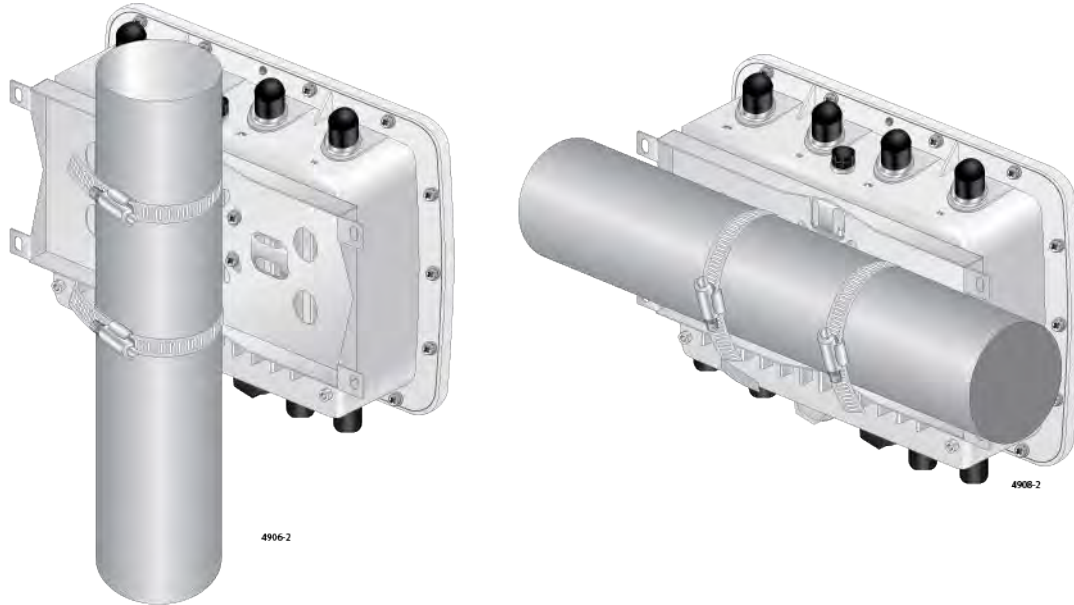

Figure 31. Pole Orientations for the Access Point
You can install the access point on a pole that stands vertically or runs horizontally. See Figure 31.
Figure 31 show the pole orientations using the pole straps and mounting base as examples. You can also install the access point on a vertical or horizontal pole using the U-bolts and pole-mount bracket.
- The access point can be installed on a pole that stands vertically or runs horizontally using either the U-bolts and pole-mount bracket or the pole straps and mounting base. See Figure 31 on page 60.